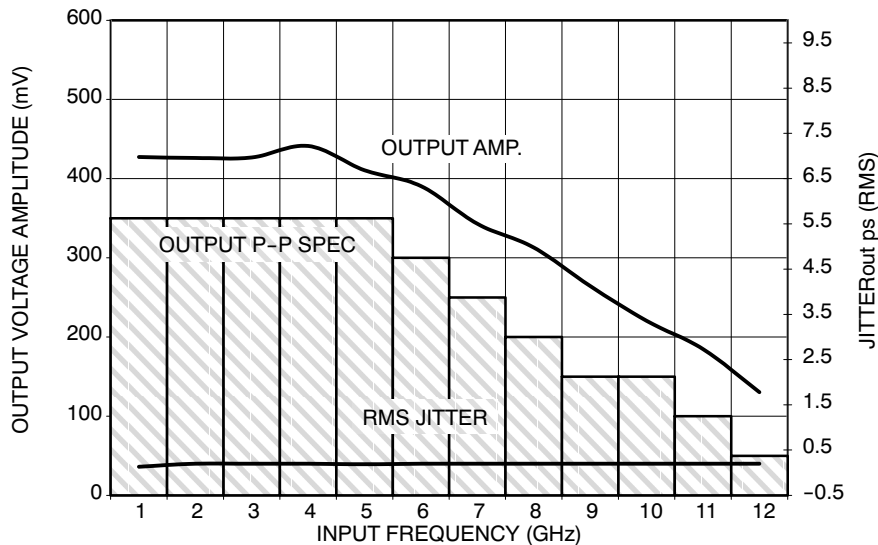

Figure 4. Output Voltage Amplitude (V_{OUTPP}) / RMS Jitter vs. Input Frequency (f_{in}) at Ambient Temperature (Typical)
22. Measured using a 500 mV source, 50% duty cycle clock source. All loading with $50\ \Omega$ to $V_{CC} - 2.0\text{ V}$. For minimum f_{\max} value of 10.709 GHz, output amplitude is approximately 200 mV (as shown in Figure 4, where output P-P spec is shown as a minimum/guarantee of around 150 mV). Input edge rates 40 ps (20% - 80%).
27. Measured using a 500 mV source, 50% duty cycle clock source. All loading with $50\ \Omega$ to $V_{CC} - 2.0\text{ V}$. For minimum f_{max} value of 10.5 GHz, output amplitude is approximately 200 mV (as shown in Figure 4, where output P-P spec is shown as a minimum/guarantee of around 150 mV). Input edge rates 40 ps (20% - 80%).